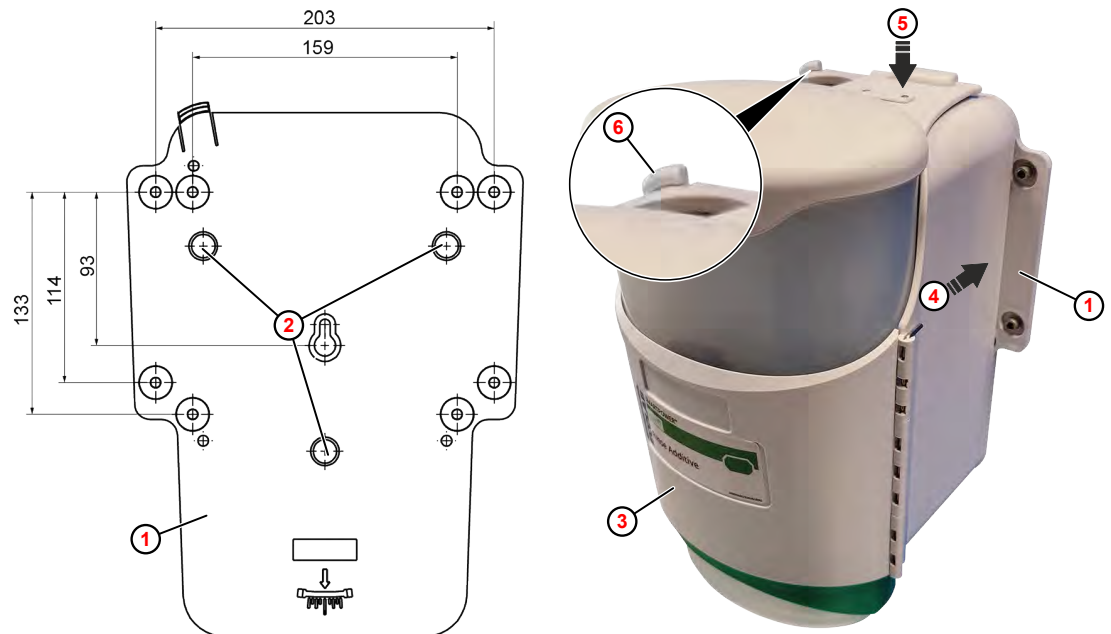

Fig. 3: Mounting the unit (with the rinse dispenser as an example)
1. Select the final location of the SMARTPOWER™ Rinse Dispenser and drill holes in accordance with the Fig. 3 .
3. Attach the mounting plate ① with dowel screws.
4. SMARTPOWER™ Rinse Dispenser ③ ② Put ④ the on the retaining pins.
5. SMARTPOWER™ Rinse Dispenser Press the down ⑤ until the locking tab ⑥ on the top of the unit clicks into place.